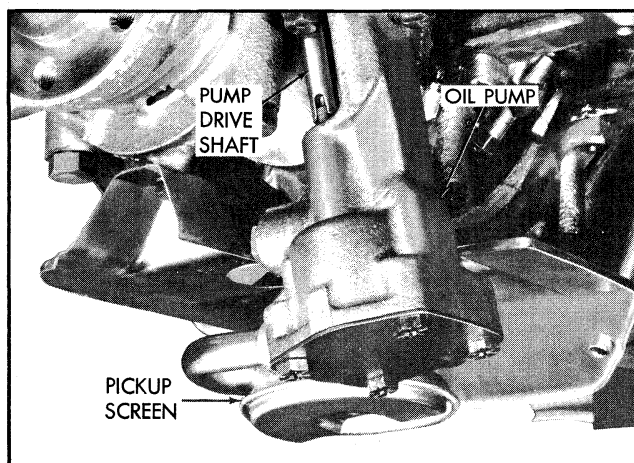

Fig. 6-127 Oil Pump and Oil Pump Drive Shaft
2. Remove oil pump attaching bolts while holding oil pump in place. Carefully lower oil pump away from block with one hand while removing oil pump drive shaft with other hand (Fig. 6-127).